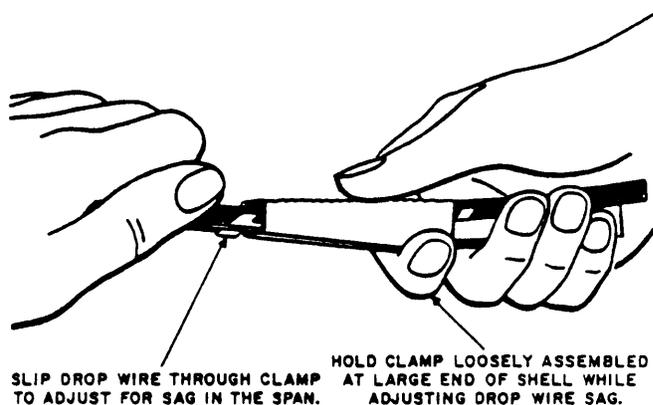

Fig. 12-Adjusting Sag in Drop Wire
- 4.05 Slide the assembled shell and shim along the wire to a position where the wedge can be easily inserted into the large end of the shell. Insert the wedge into the shell and hold loosely assembled in one hand while pulling slack in or out of the drop wire through the clamp until the proper sag is obtained. (See Fig. 12). See Section 462-400-200 for stringing sags for drop wire.